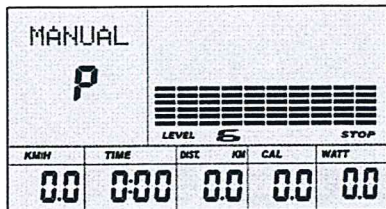

fig 1
2. A: 1 Manual Program (See fig 1)